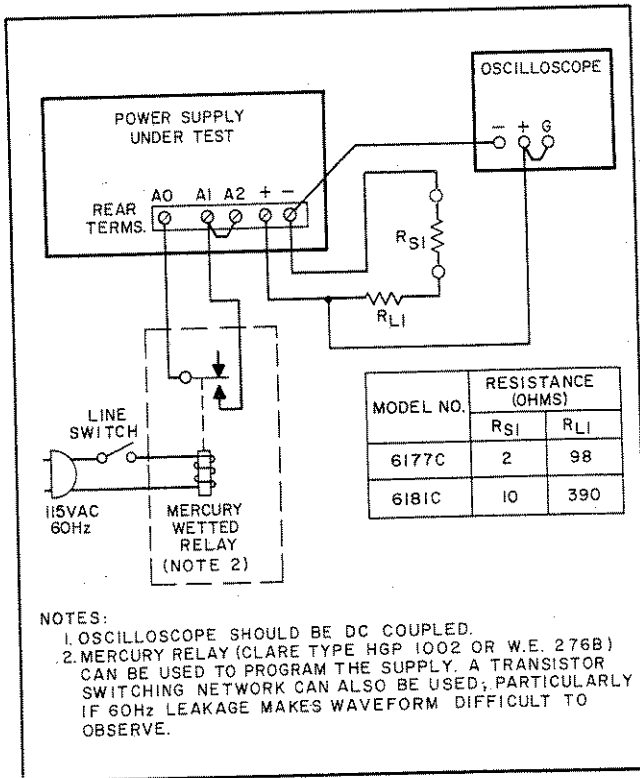

Figure 5-7. Programming Speed, Test Setup
- a. Connect test setup shown in Figure 5-7.